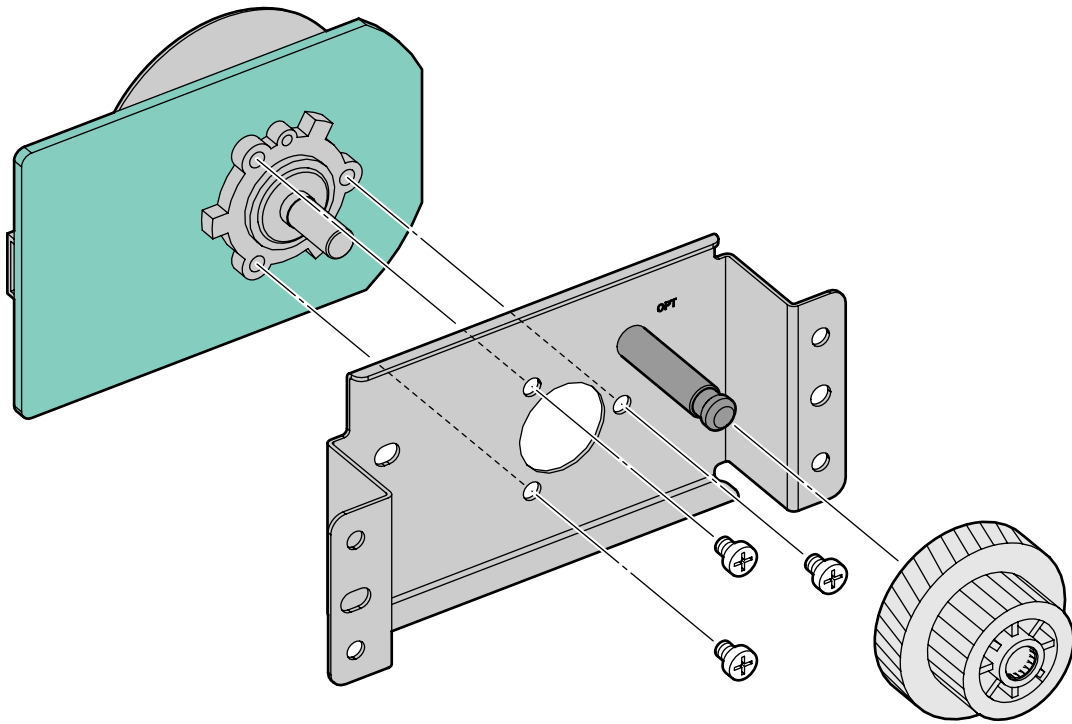

Figure 2
5. Remove the Drive Assembly. (Figure 2)